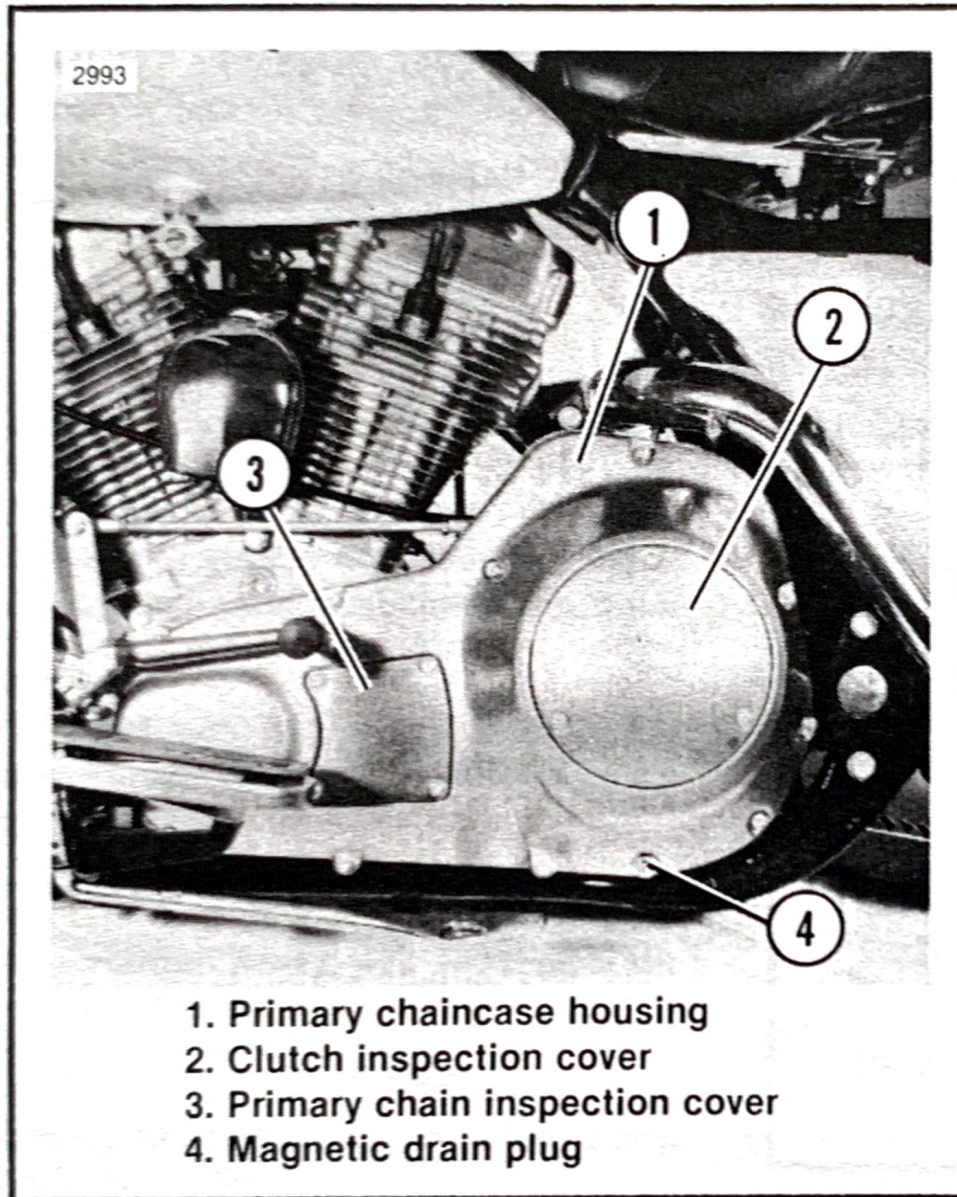

Figure 27. Primary Drive Housing
2. See Figure 27. Remove screws and washers that secure clutch inspection cover.
See Figure 27. The primary chaincase magnetic drain plug is located at bottom of the primary housing at the rear. Unscrew plug and remove foreign material from end of plug. This should be done when primary chaincase lubricant is changed initially at 500 miles and every 5000 miles thereafter.